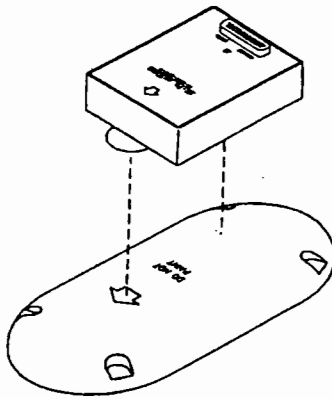

Figure 5-4. WX-PA Antenna Alignment
- b. Align arrow symbols so that the WX-PA antenna is centered on the system antenna. (This is necessary for proper response.) See figure 5-4.